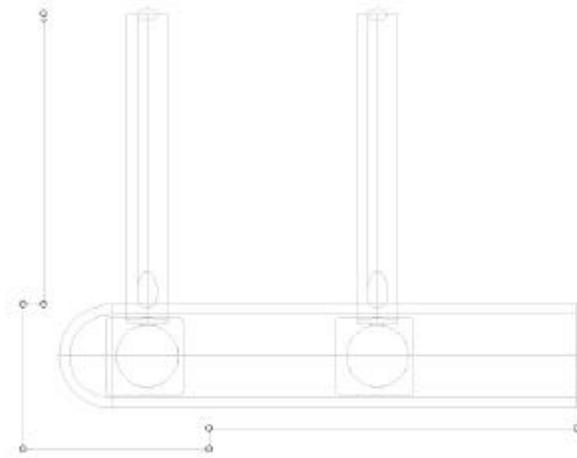

Figure 6-4: The Curve Deck Edge in Top View
1. Create a curve, **Deck Edge**, using the **Draw Curve** option, that represents the outer edge of one quarter of the deck. (Once you have drawn the curve, click the right mouse button, name the curve Deck Edge, and set Maximum Degree to 1, and Method to Control Points. See the Autoship Reference Manual for more details.) Refer to figure 6-4.